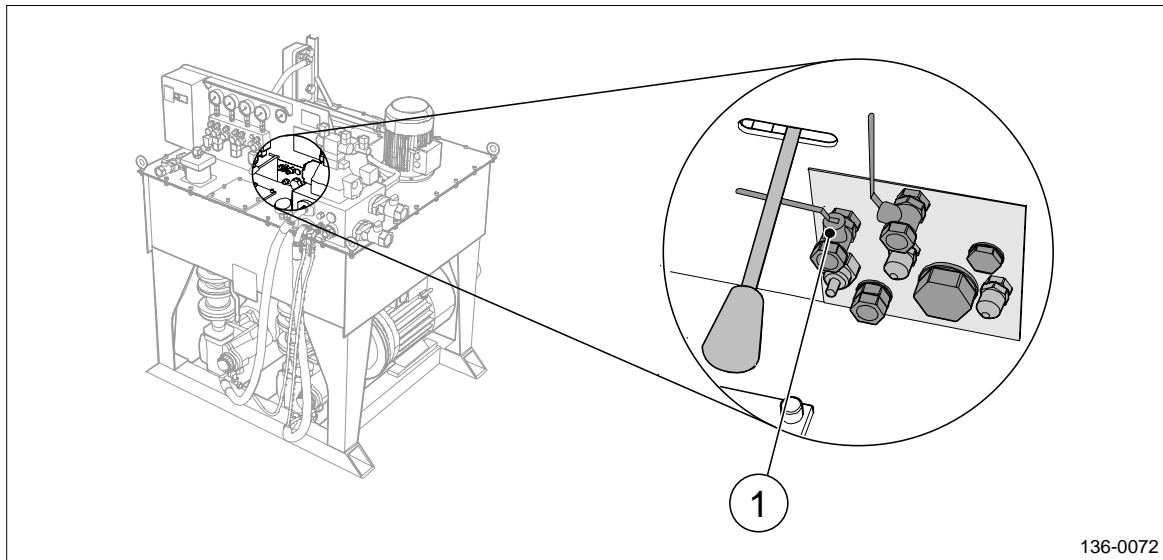

Figure 3 The emergency operating control panel on the hydraulic power pack unit.
9. Open, if the vessel is equipped with a gravity tank, the shut-off valve V25 (see figure 3) and drain the oil from the gravity tank into the hydraulic power pack tank. This will reduce the static pressure.